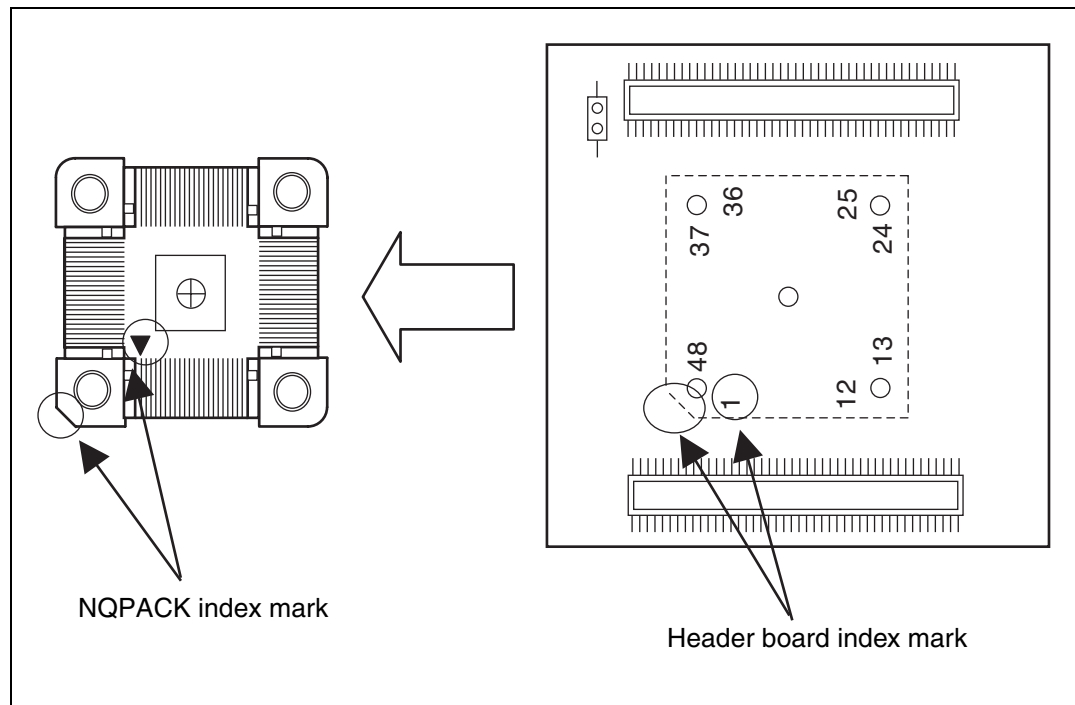

Figure 4 Index Position
1. To connect the header board to the user system, match pin 1 indicated by the index mark (▲) on the NQPACK mounted on the user system with pin 1 indicated by the index mark (an angle cut linearly at one place only in silk screen) on the header board and then insert it (See “Figure 4”) . The pins of YQPACK are thin and easy to bend. Insert NQPACK after confirming that the pins of YQPACK are not bent.